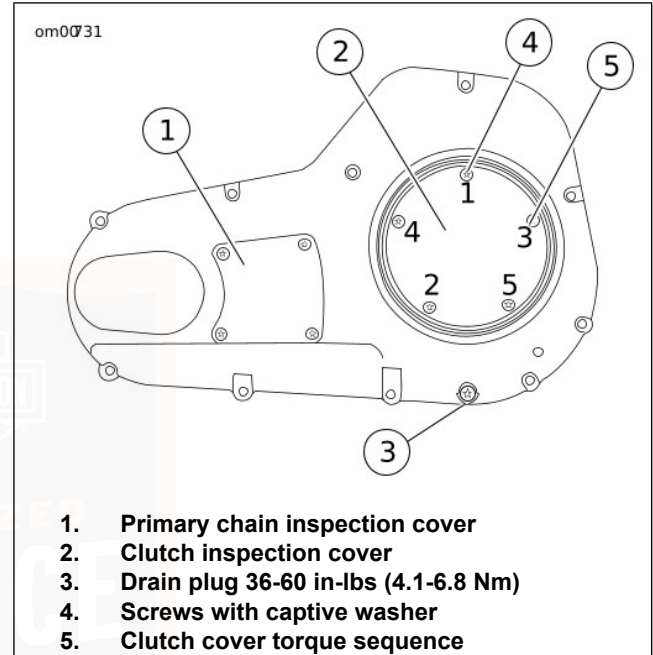

Figure 46. Primary Chaincase Cover: Touring Models
3. See Figure 46. Remove five screws (4) (with captive washers) to free clutch inspection cover (2) from primary chaincase cover.
2. See Figure 46. Remove magnetic drain plug (3) at bottom of primary chaincase cover. Drain lubricant into suitable container.
- e. Attach clutch inspection cover using five screws (with captive washers). Tighten to 9.5–12.2 N·m (84–108 **in-lbs**). Follow torque sequence shown in Figure 46.